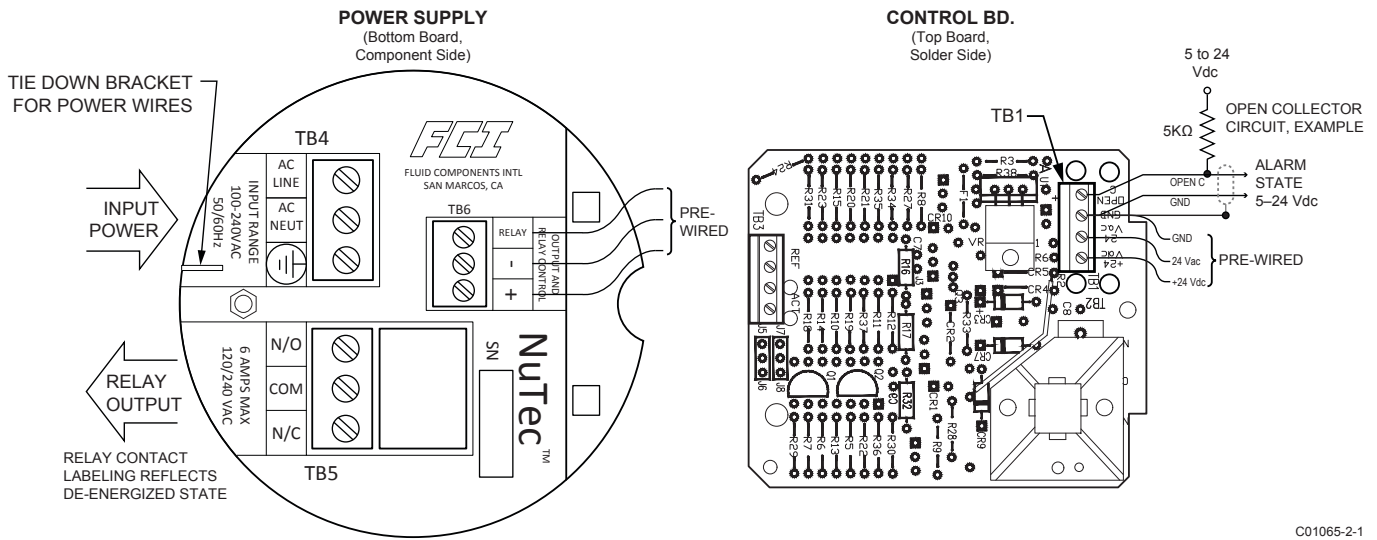

Figure 9 100 - 240 Vac Input Power
3. Attach the AC power leads to TB4 on the power supply board. The terminal assignments are silkscreened on the board. Make sure that an earth ground wire is attached to the earth ground terminal. See Figure 9.
5. After making the power/relay/open collector connections, secure all the wires to the power supply's tie down bracket using a cable tie wrap. See Figure 9. The tie down bracket is a safety agency requirement that provides wiring strain relief and prevents fly off of any wire carrying high voltage.